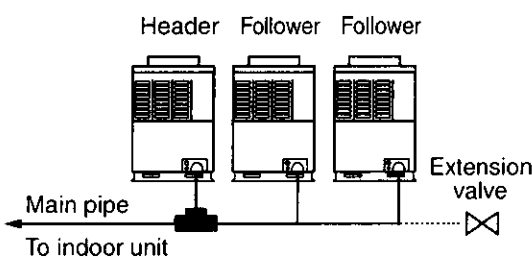

Figure 1
- 1) Be sure to use a header unit for the leading outdoor unit to be connected to the main pipe. (Figure 1)